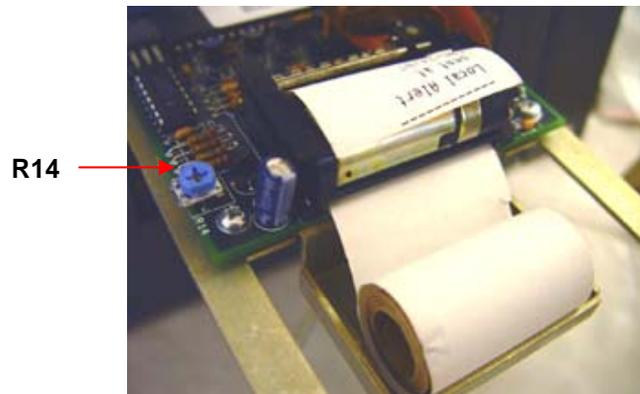

Fig. 7
13. Open the printer drawer and reinstall the printer paper. (See Fig. 7) Use the command ***menu.paper feed(password)***. Note: If the paper feed does not work the printer may be configured in the OFF state. To turn it on enter ***menu.configure.printer.yes***. You will be prompted to enter your password.
3. If the printer mechanism advances the paper and the print head recognizes line feeds, but there is no text, make sure that the paper is correctly installed. (See Fig 7 above) Next, assure that the contrast potentiometer (R14) is advanced far enough to give the proper print density. (See step 14 above) Q7, D3, C3 and/or U1 could also be the culprit if there is no print density at all with R14 turned fully clockwise.